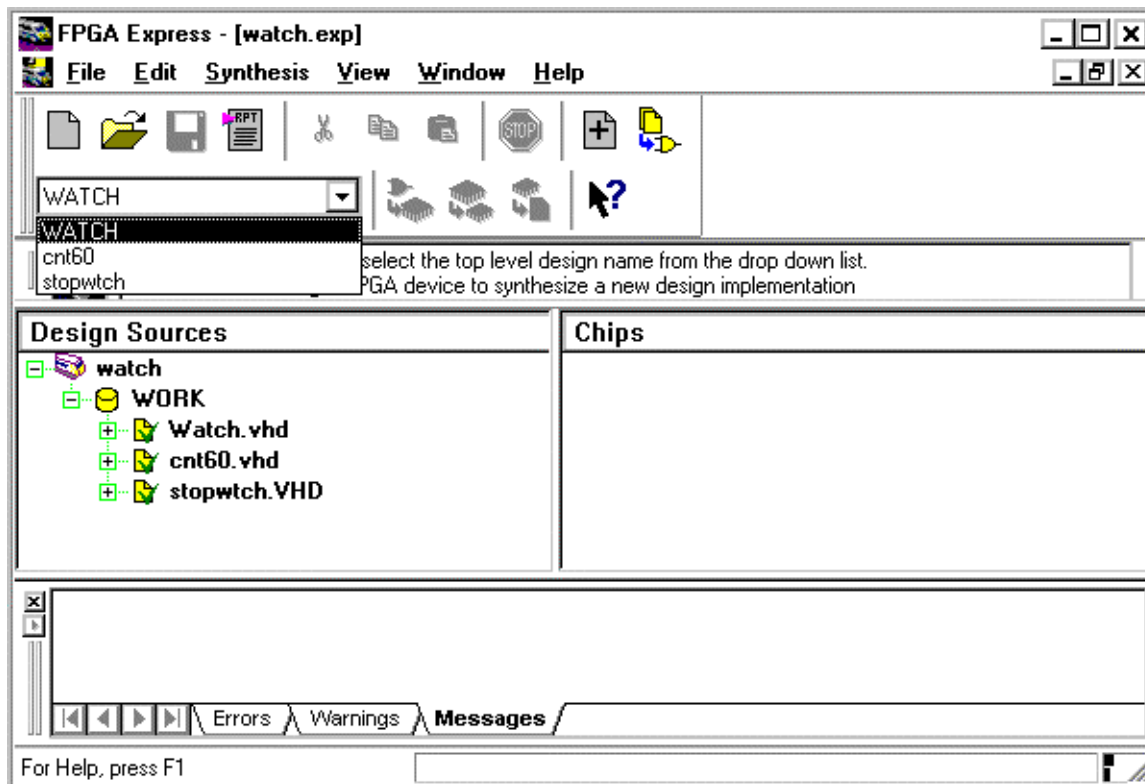

Figure 1. Choosing the WATCH file as the top file in the design hierarchy.
- 11) Within the Foundation Express software, an implementation is considered to be an assembly of all the necessary HDL files into a single project. To create the **WATCH** implementation from the HDL files, click on any of the design files in the **Design Sources** window, and select **WATCH** from the drop down box at the top of the screen (see **Figure 1**).